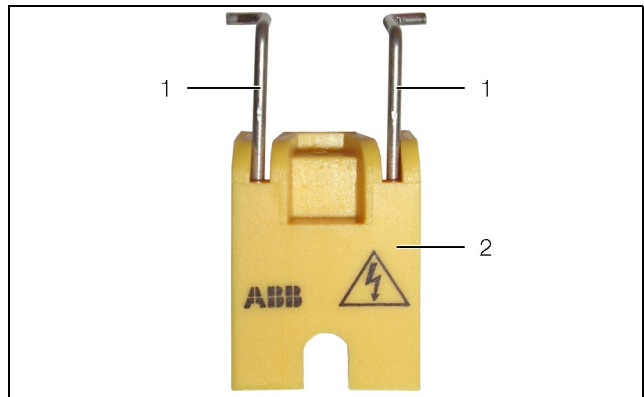

Fig. 8: Lockout included with the supply
- Gently press the two lockout clips (fig. 8, item 1) together.